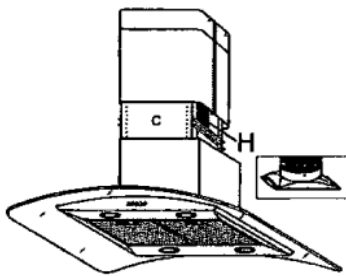

Figure 13
- Fix the air evacuation pipe H (not supplied) onto the connection flange. (Fig. 13)